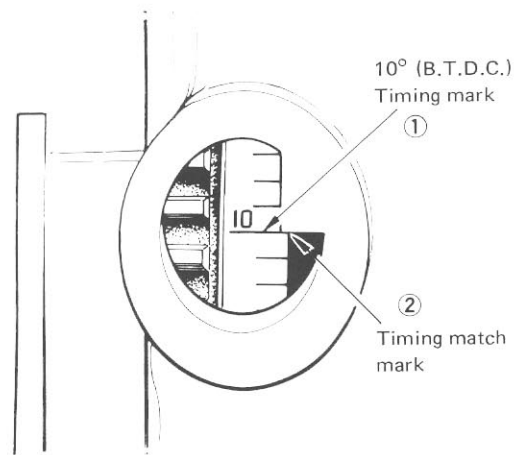

Fig. 8-23
With timing marks ① ② lined up as shown in Fig. 8-23, remove the cylinder head cover and check to be sure that No. 1 cylinder rocker arms are not riding on cam lobes. If the arms are up, turn over crankshaft by one rotation (360°) clockwise (as viewed from front side). This turning should cause the buzzer to sound off just when the marks come into alignment.
- 2) Bring timing mark ① into alignment with mark ②, as shown in Fig. 8-23. Mark ① represents the 10° crank angle.